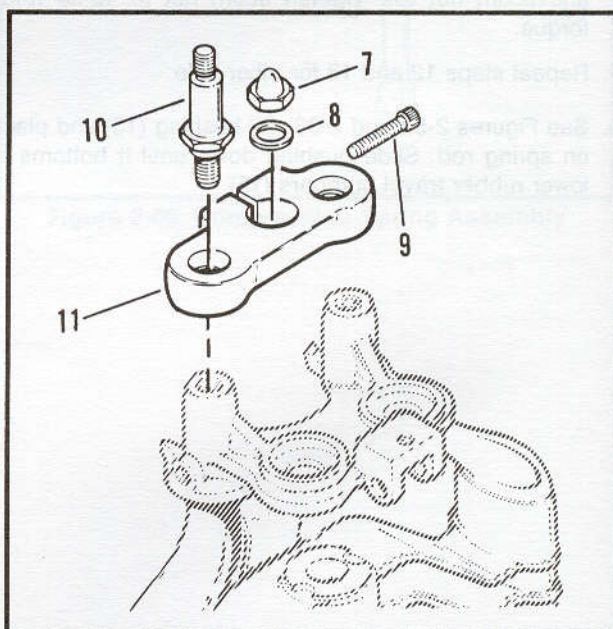

Figure 2-71. Upper Triple Clamp & Fork Leg Studs
See figure 2-71. FXSTS rigid fork stem bracket has notches (A) machined into the pad on the bracket. These notches make it possible to use a pair of pry bars to pry the lower dust shield and bearing off the fork stem.